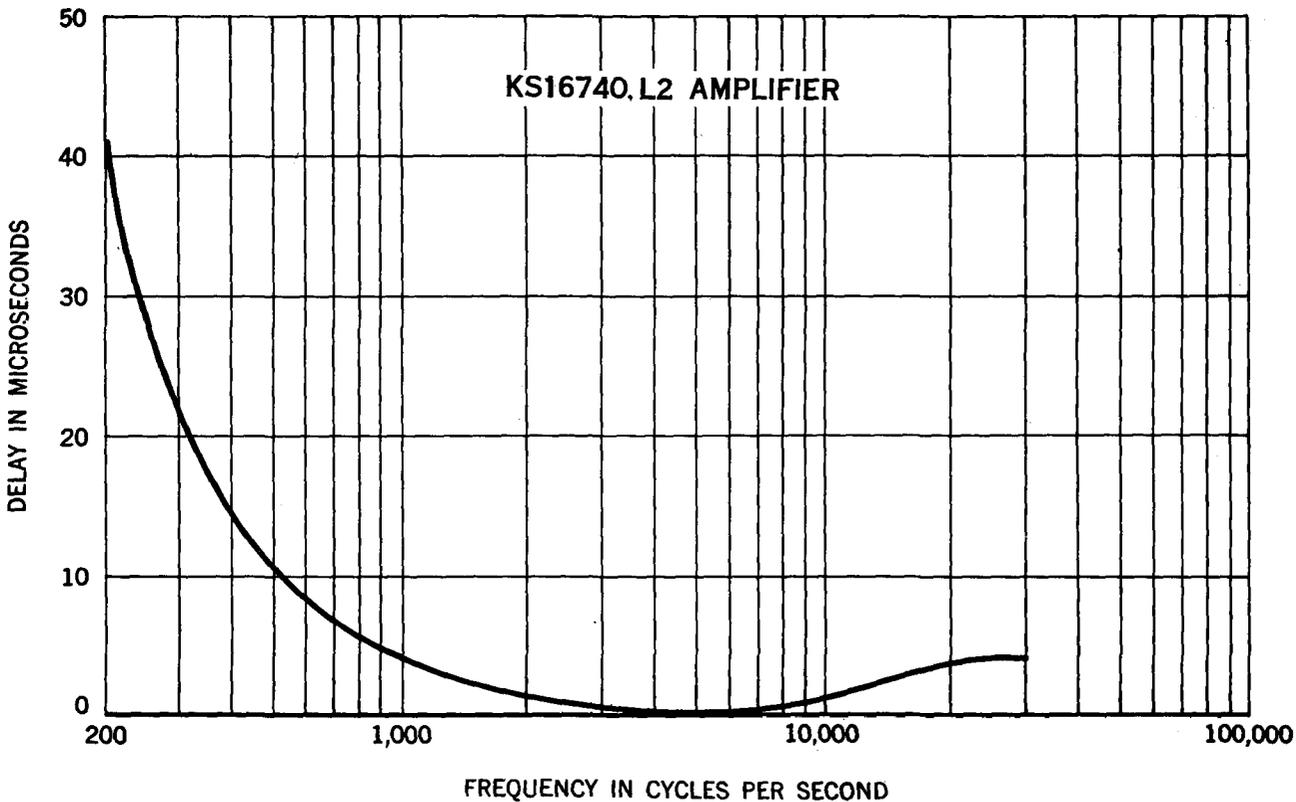

Fig. 10 — Delay Distortion vs Frequency — 30 kc
5.06 Fig. 10 shows the delay distortion characteristics of the amplifier up to 30 kc.